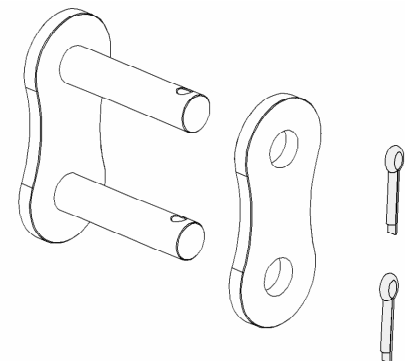

Figure 7. Chain Joiner Link
3. After each season remove all chains by loosening the tensioner's and removing the joiner links - see figure 7. Wash off all dirt by using paraffin. Dry the chains before soaking overnight in oil and then refit.